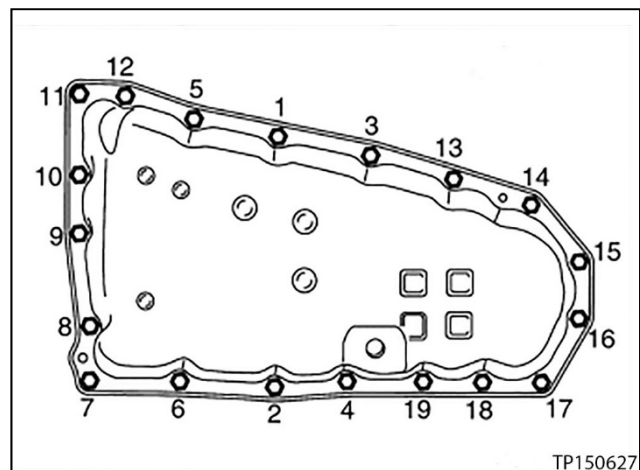

Figure 29
20. Install the oil pan bolts (see Figure 29).